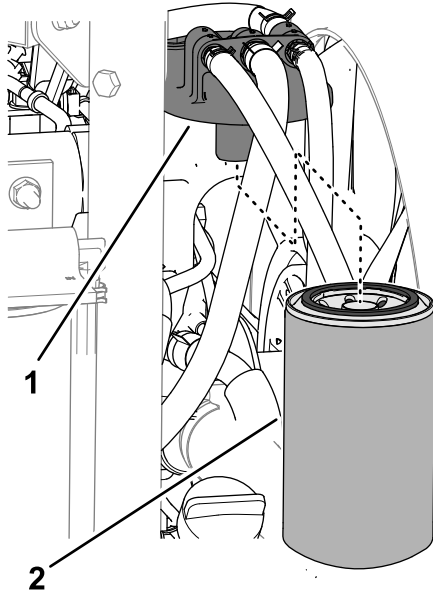

Figure 117
2. Clean the area around the fuel-filter head (Figure 117).
3. Remove the filter, and clean the filter-head mounting surface (Figure 117).